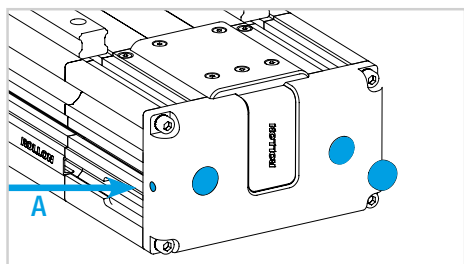

Fig. 9
- 10) Remove the protection caps on the fixing screws and loosen the A set screws (Fig.9).